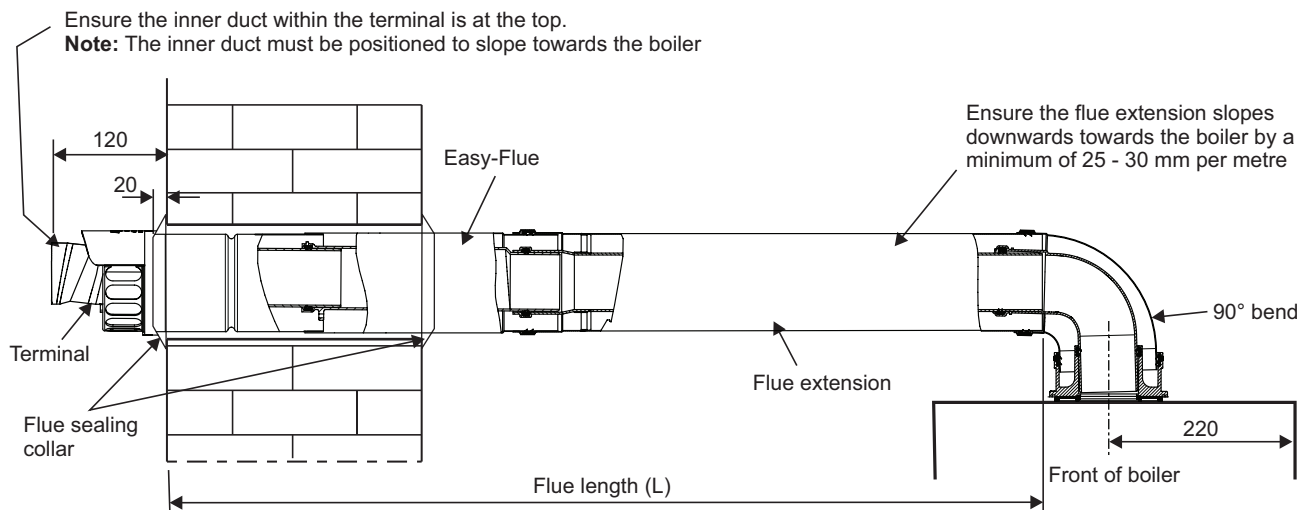

Fig. 5.13 - Push fit side flue
5.9 EXTENDING THE FLUE - Fig. 5.13
Note: Check the flue terminal protrudes 120 mm out of the wall and the inner duct of the terminal is positioned correctly (see Fig. 5.13).